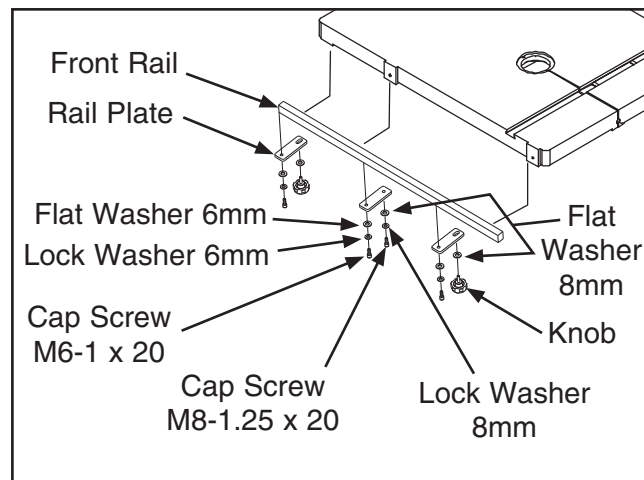

Figure 29. Installing front rail onto table.
1. Attach the rail plates to the front rail with the (3) M6-1 x 20 cap screws, 6mm lock washers, and 6mm flat washers (see **Figure 29**).
2. Attach the outer two rail plates with the round and elongated mounting holes to the outer part of the table bottom with (2) M8-1.25 x 20 knobs and 8mm flat washers.
3. Attach the remaining rail plate with the round mounting holes using (1) M8-1.25 x 20 cap screw, 8mm lock washer, and 8mm flat washer (see **Figure 29**).